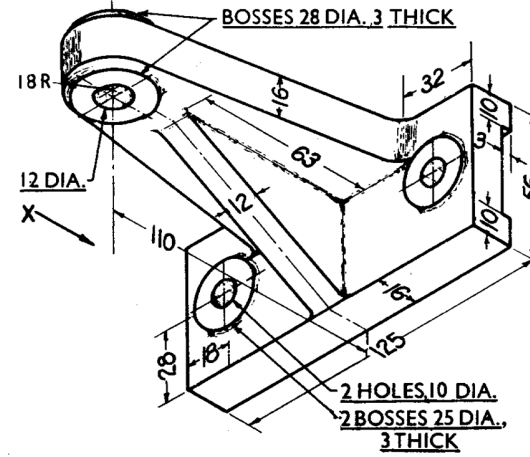

FIG. 18-49
(27) Fig. 18-49: (i) Front view. (ii) Side view. (iii) Top view. Use first-angle projection method.